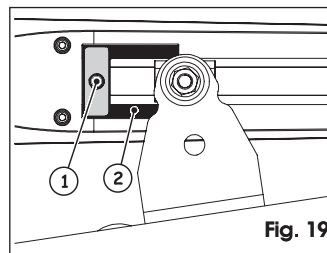

Fig. 19
- Loosen the securing screw, figure 19 ref. ①. The screw does not need to be completely removed.
The mechanical stop is coupled to a toothed sector, figure 19 ref. ②. In the case of obstructions during movement, check that the coupling is free. DO NOT USE FORCE.